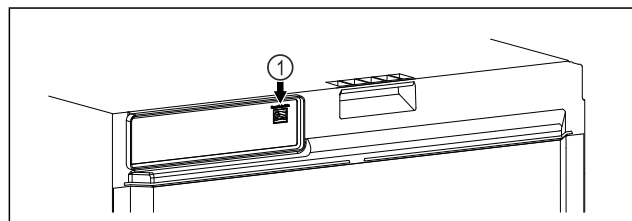

Fig. 102
- ☐ SmartModule Fig. 102 (1) has been inserted.